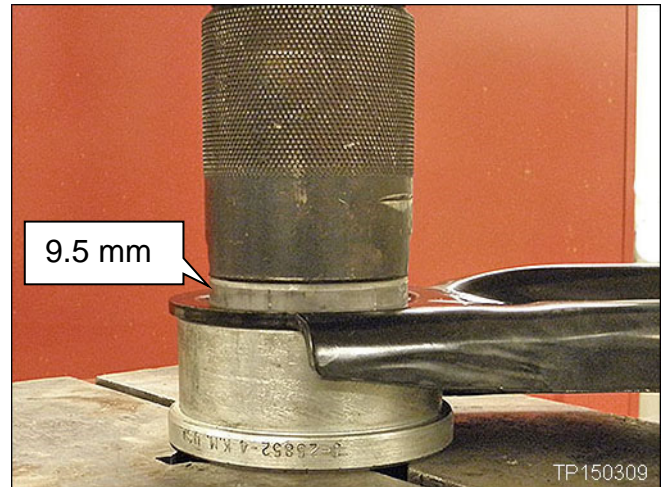

Figure 7
7. Press the bushing to a position 9.5 mm above the transverse link (see Figures 7 and 8).
- a. After the new bushing is correctly pressed in (see Figures 7 and 8), release the press pressure.